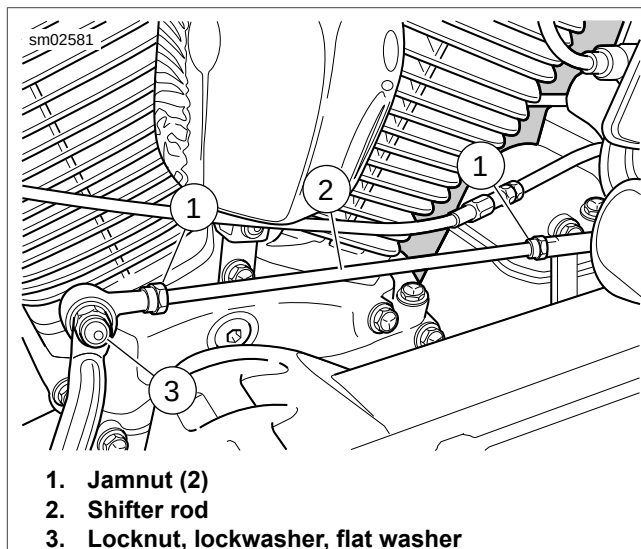

Figure 6-2. Shifter Rod
1. See Figure 6-2. Remove locknut, lockwasher and flat washer (3) to free front end of shifter rod from inner shift arm.
2. Loosen jamnuts (1) and adjust rod (2) as necessary.
4. Tighten locknut (3) with lockwasher and flat washer to 70-90 **in-lbs** (7.9-10.2 Nm).
5. Tighten jamnuts (1) to 80-120 **in-lbs** (9.0-13.6 Nm).